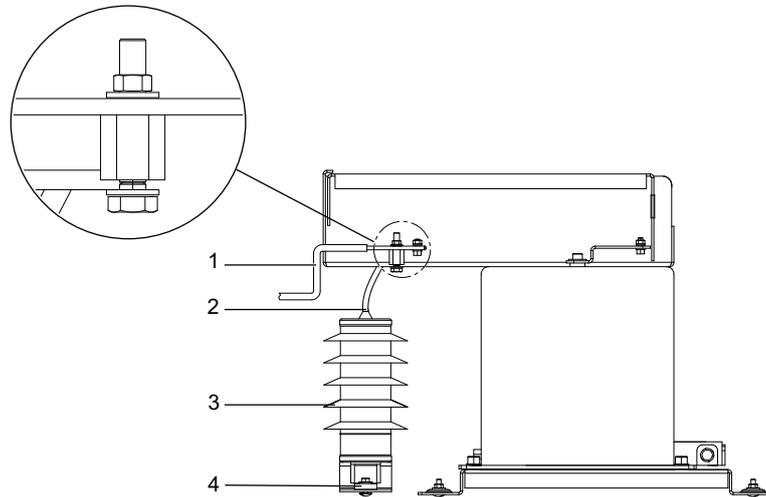

Figure 58
1. Unscrew the M10 screws (1) provided on both sides. Refer to Figure 58.
2. Remove the terminal copper bar (2) from the VT connection copper bar (1).